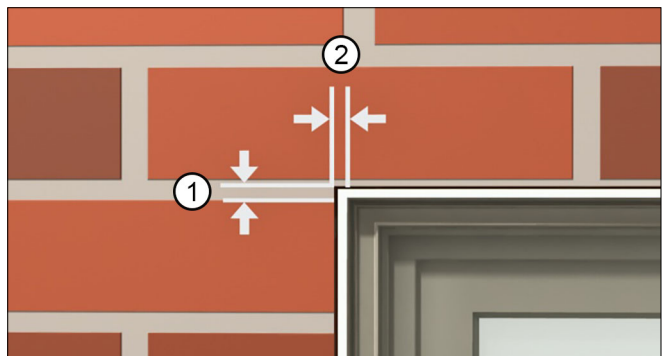

Figure 4 Typical Masonry Opening
3. Masonry openings (MO) should be $1/2"$ (13) wider than the outside measurement of the frame and casing and $1/4"$ (6) higher than the outside measurement of the frame or casing. See Figure 4.